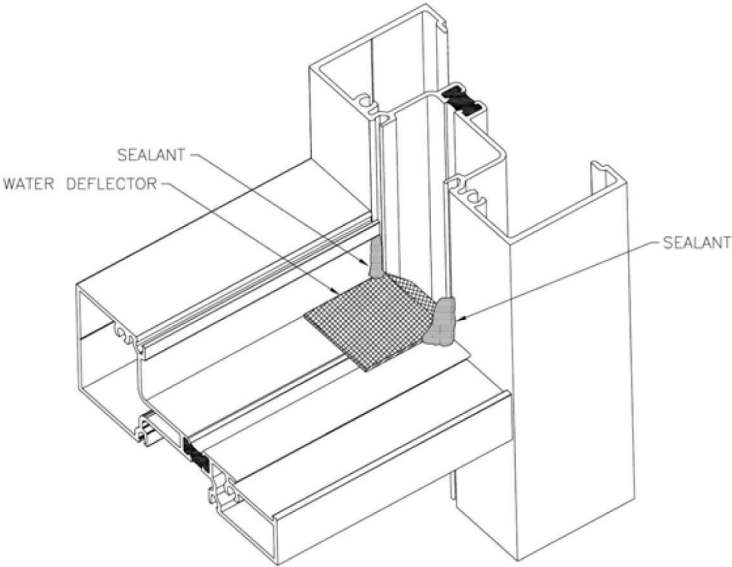

**Fig. 10**
**NOTE:** The last two panels may be required to be installed together as a unit to fit into opening. See Figure 10.